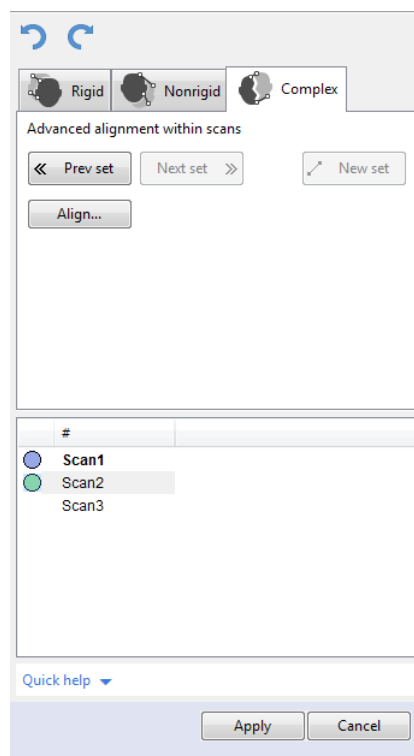

Figure 74: *Align* panel: *Complex* tab.
- Make sure the *Complex* tab is selected (see Figure 74).